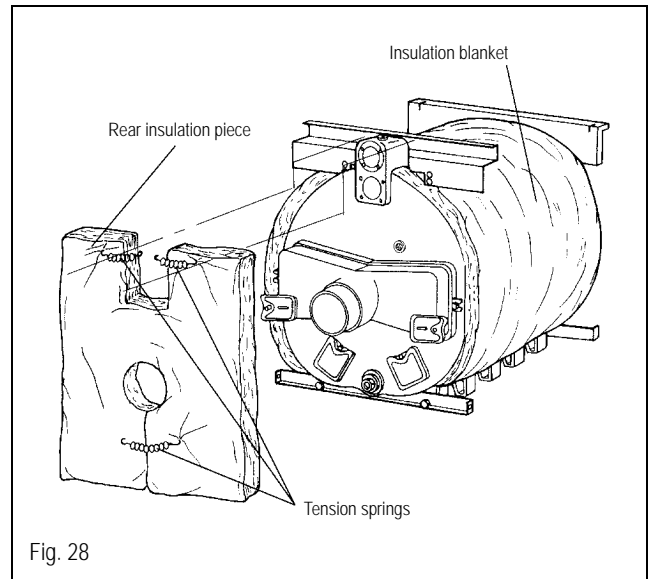

Fig. 28
- Arrange the insulation blanket according to Figure 28.
- Install the rear insulation piece with the return connection cut-out upward on the vent connection (Fig. 28).